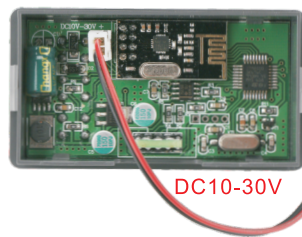

Figure 2-3
- The display panel can also be powered by connected to the extension power supply port; the power supply needs direct current with a voltage range between 10V-30V. (Shown in Figure 2-3)